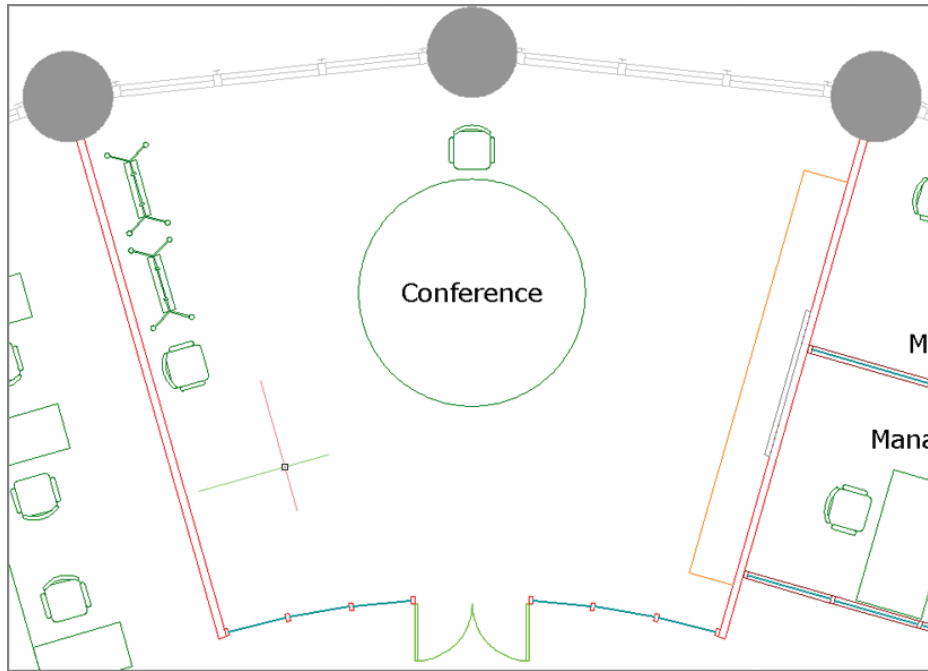

FIGURE 4.13 Reorienting the UCS to an object
10. Pan over to the Conference room. To copy an array of chairs along the left wall, you will rotate the user coordinate system (UCS) to match the orientation of the wall. Type **UCS**, and press Enter. Select the Object option by typing **OB** and press Enter. Select the inner left wall line and watch as the crosshair cursor changes to match the angle of the wall (see Figure 4.13).